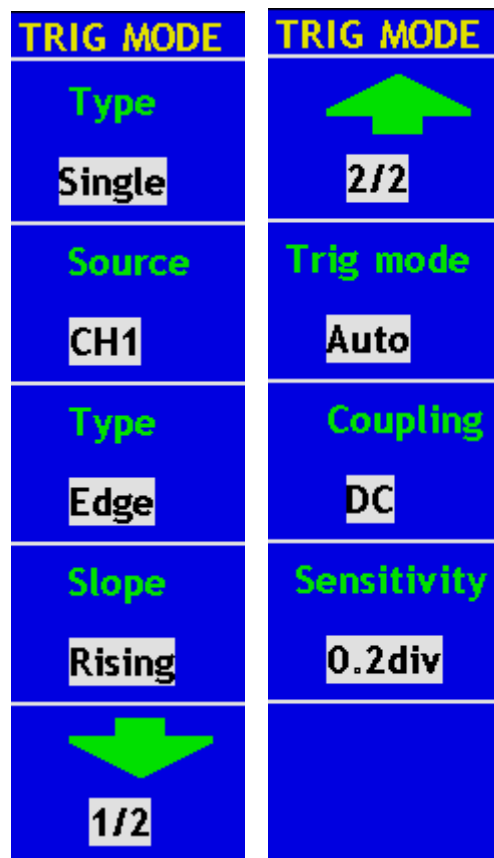

Fig. 29 Trigger Mode Menu
**TRIG MENU:** It is a trigger menu button. When it is pressed, an operation menu will be presented in the screen, shown as Fig. 29.